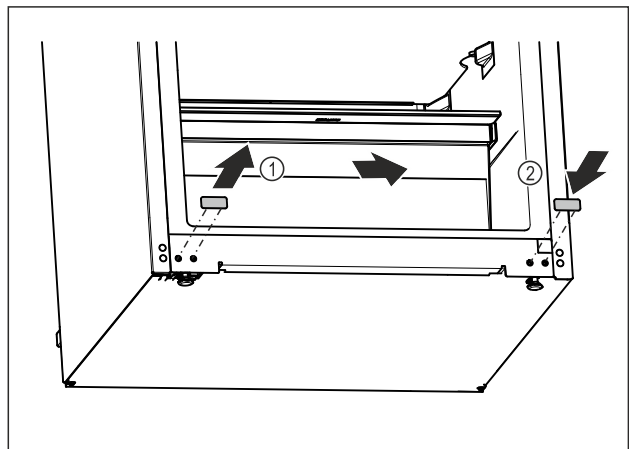

Fig. 21
- ▶ Pull out the cover plug. *Fig. 21 (1)*
- ▶ Insert the cover plug on the opposite side. *Fig. 21 (2)*